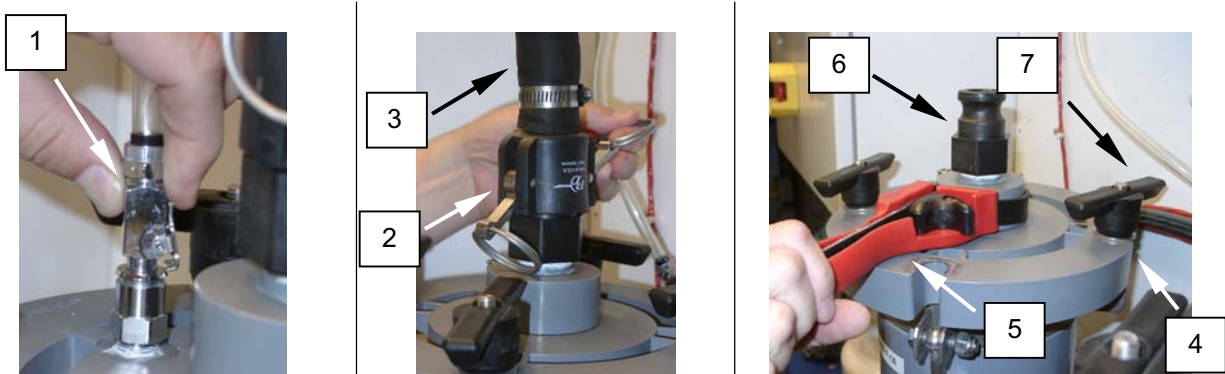

Figure 1. Replace the F-1A or F-1B Filter Elements (Socks).
1. Disconnect the filter vent hose (**Figure 1, Item 1**).
2. Disconnect the QD fitting (**Figure 1, Item 2**) and hose (**Figure 1, Item 3**) from the filter cap (**Figure 1, Item 4**).
3. Use a strap wrench (**Figure 1, Item 5**) to loosen the QD male fitting (**Figure 1, Item 6**) from the filter cap (**Figure 1, Item 4**).